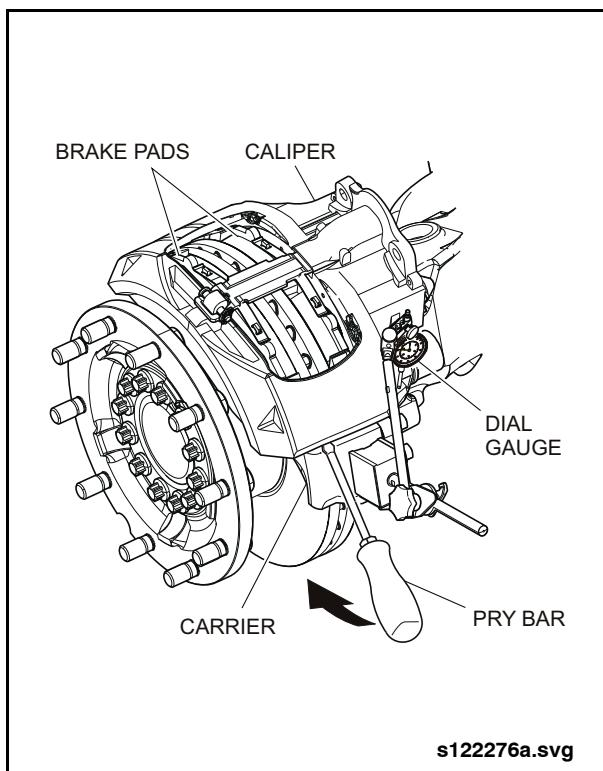

Fig. 1-47: Measuring Guide Pin Play
- b. Mount a dial indicator (Items 29 & 69 from special tools list) on the short bearing side of the carrier with the indicator tip resting on the brake caliper. Zero the dial gauge. See "Fig. 1-47: Measuring Guide Pin Play" on page 57.